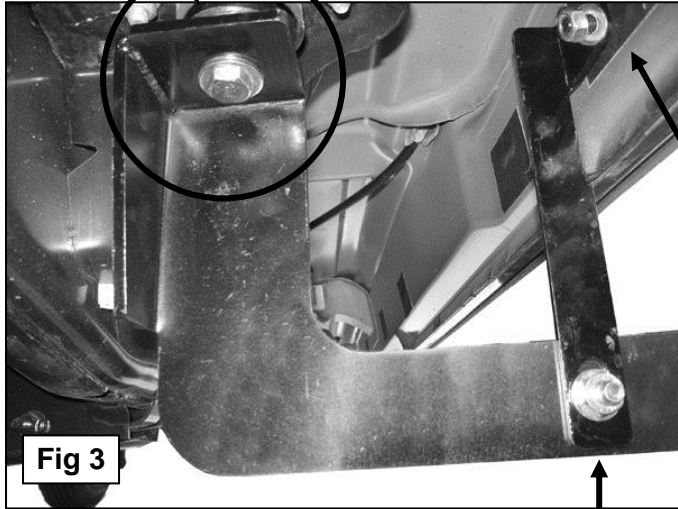

Fig 3
2. Select the driver side front Mounting Bracket. Insert (1) 12-1.75mm x 120mm Hex Bolt with (1) 12mm ID x 32mm OD x 3mm Flat Washer and (1) 12mm Lock Washer through the Mounting Bracket. Place (1) Spacer Plate onto the 12mm Hex Bolt then slide the rubber bushing onto the Hex Bolt. Make sure that the Spacer Plate is between the Mounting Bracket and the factory rubber bushing, **(Figure 3)**. Hold the front Mounting Bracket, (with hardware, factory washer and rubber bushing), up in position and hang it from the body mount by threading the hex bolt into the body mount. Snug but do not tighten hardware at this time. **IMPORTANT:** On 05 and newer model years, the large washer on the factory body mount bolt is removable, (do not discard-must reinstall), and the bolt is long enough to go through the Mounting Bracket and properly thread into the body mount. It is the installer's responsibility to check length and to determine whether to use the factory or replacement hex bolt.
5. Locate the driver side front Support Bracket (long) and attach it to the Bolt Plate with (1) 10mm Lock Washer, (1) 10mm Flat Washer and (1) 10mm Hex Nut, **(Figure 3)**. **NOTE:** Place Support Bracket against the front facing side of the Mounting Bracket with the bent tab facing towards the **front** of the vehicle. Snug but do not tighten hardware at this time.
6. Attach the lower end of the front Support Bracket to the Mounting Bracket using (1) 10mm x 30mm Hex Head Bolt, (1) 10mm Lock Washer, (2) 10mm Flat Washers and (1) 10mm Hex Nut, **(Figure 3)**. Do not tighten hardware at this time.